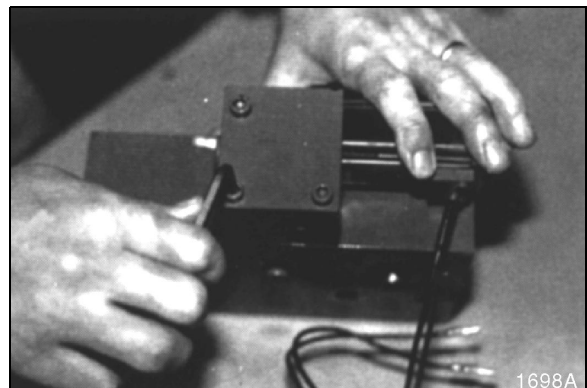

Figure 104
13. Tighten three hex bolts to 1.2 – 1.5 kg m (8.68 – 10.85 ft lb); attach four DRE2K hex bolts and torque to 0.5 – 0.6 kg m (3.62 – 4.34 ft lb). See Figure 104.